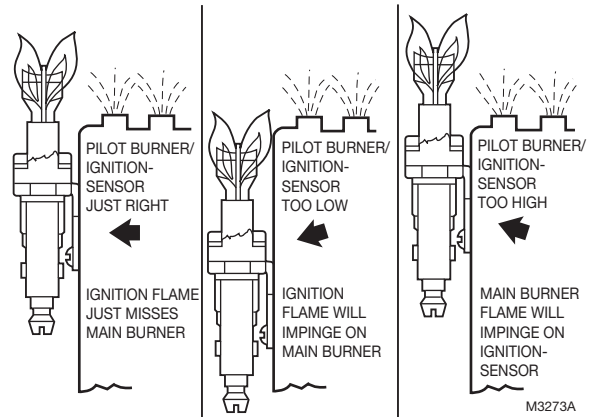

Fig. 14. Location of pilot burner/igniter-sensor.
3. Mount the pilot burner/igniter-sensor so that the pilot flame remains properly positioned with respect to the main burner flame. See Fig. 14.